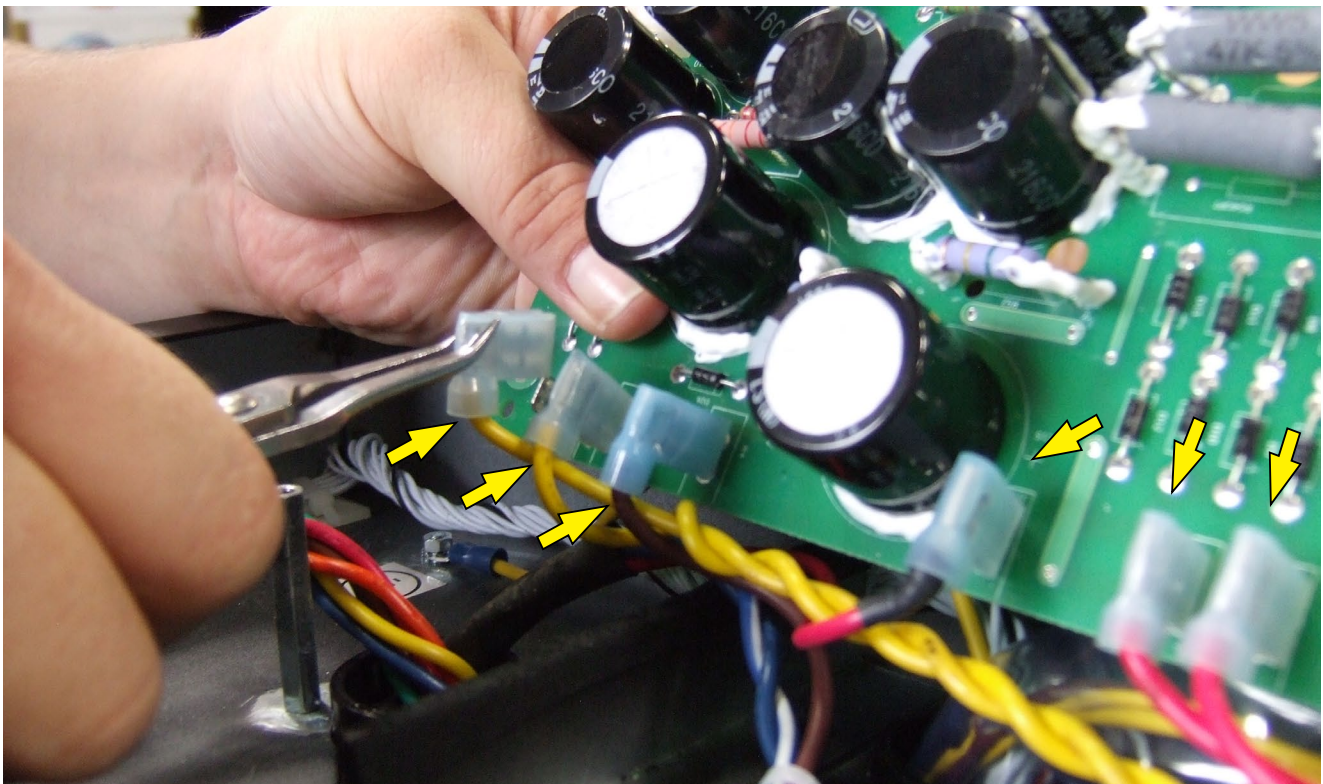

Figure 17a
17. With a pair of Needle nose pliers disconnect remaining seven faston connections as seen in Figure 17a. At this point you should have the main board free and safe to remove.